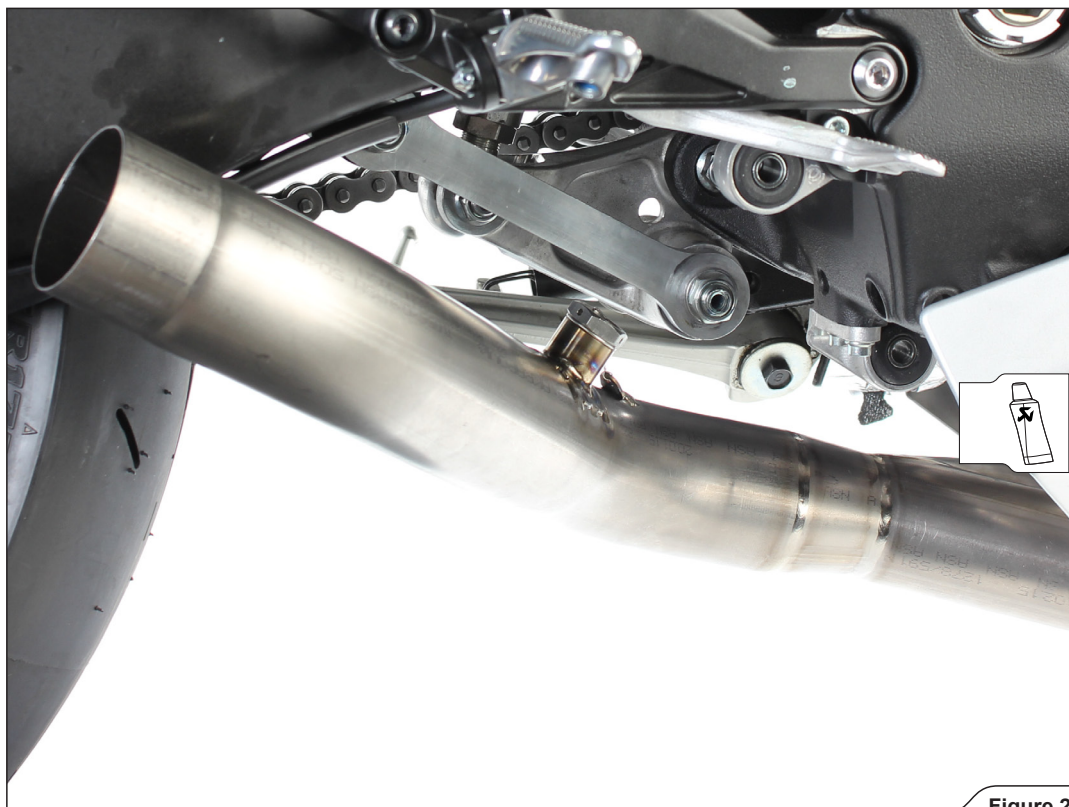

Figure 21
- Slide the link pipe onto the collectors and only hand tighten connection clamps (Figure 21).